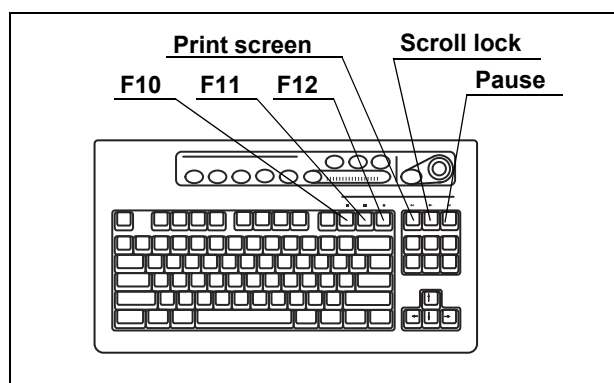
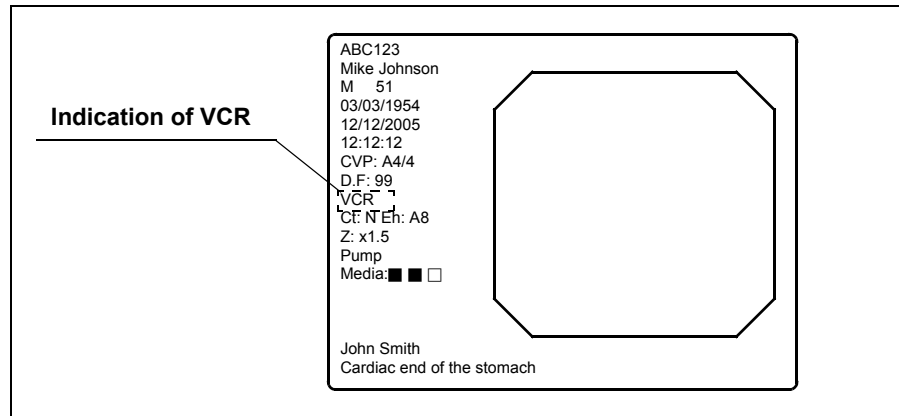

Figure 5.78
Figure 5.79
2. Perform the VCR operation of recording or playback using the keys on the keyboard (see Figure 5.78). “VCR” appears on the monitor during VCR recording (see Figure 5.79).